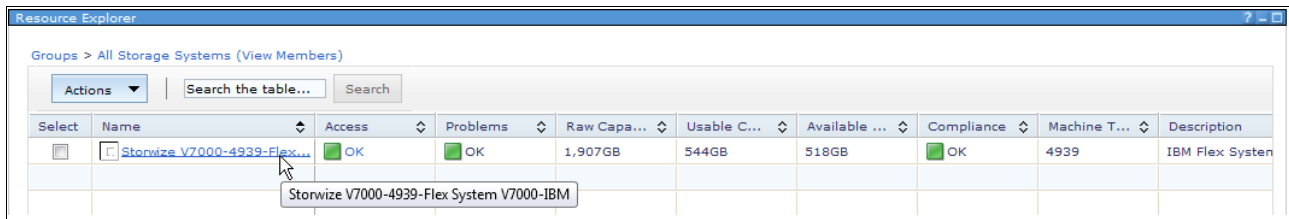

Figure 3-93 Selecting target storage
4. Select target storage (for example, IBM Storwize V7000), as shown in Figure 3-93.